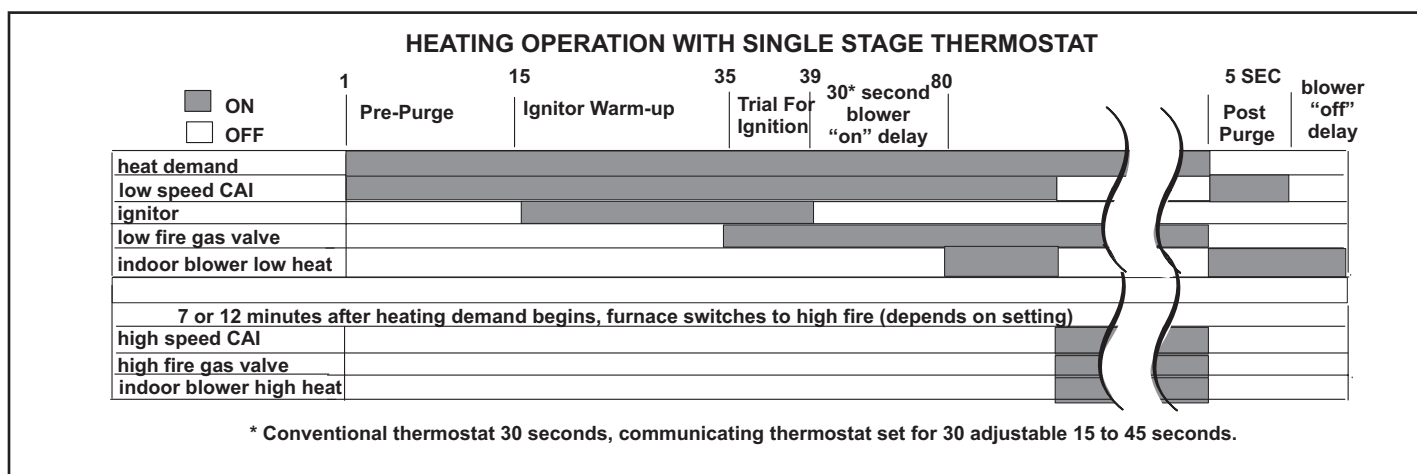

FIGURE 67
**Applications Using A Single-Stage Thermostat See FIGURE 67 for ignition control sequence**